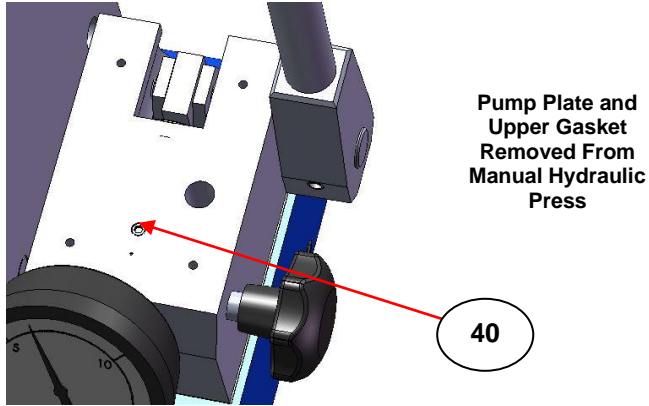

Fig 10. Oil Bleed Screw on Pump Block Assembly
Loosen and remove the four securing screws and lift the pump plate and the pump block upper gasket (38) clear. Be careful not to tear the gasket material. Loosen, but do not remove the oil bleed screw (40) by turning anticlockwise. (See Fig 10.)